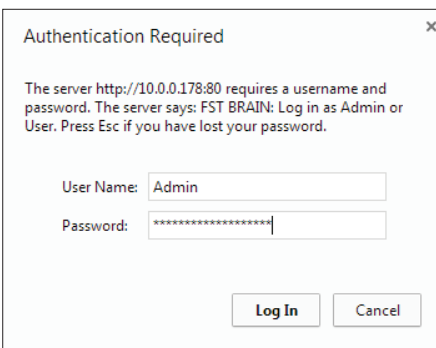

Figure 33: Authentication Log In
3.) If the passwords match, the Authentication Window may pop up. You must *type* the User Name “Admin” and the password you just created in the window to proceed. See **Figure 33**.